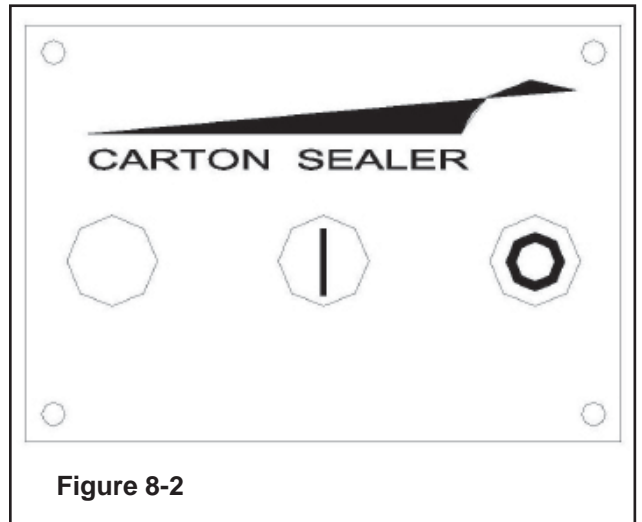

Figure 8-2
- Push Main Button to ON (I) Position (Figure 8-2).
- The main On/Off switch "ON" (I) (Figure 8-2)